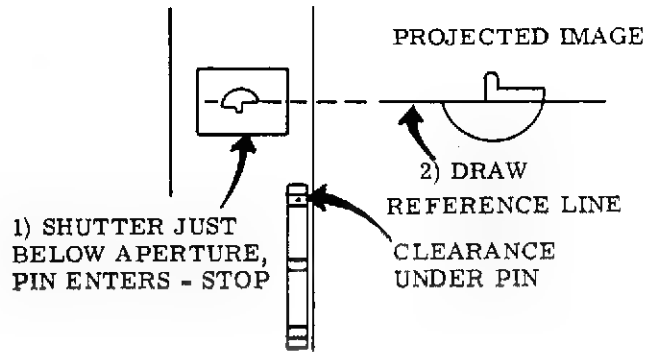

Figure 3-29. CLAW PULL DOWN STROKE SET-UP
8. Manually raise the Douser and project an image at least 8" wide (a wide angle lens will help achieve this width at a shorter projection distance), raise the elevation approximately 1" (this will get you set up in case stroke is in need of adjustment), and draw a reference line the full width of the Target on the bottom step. (Figure 3-29)